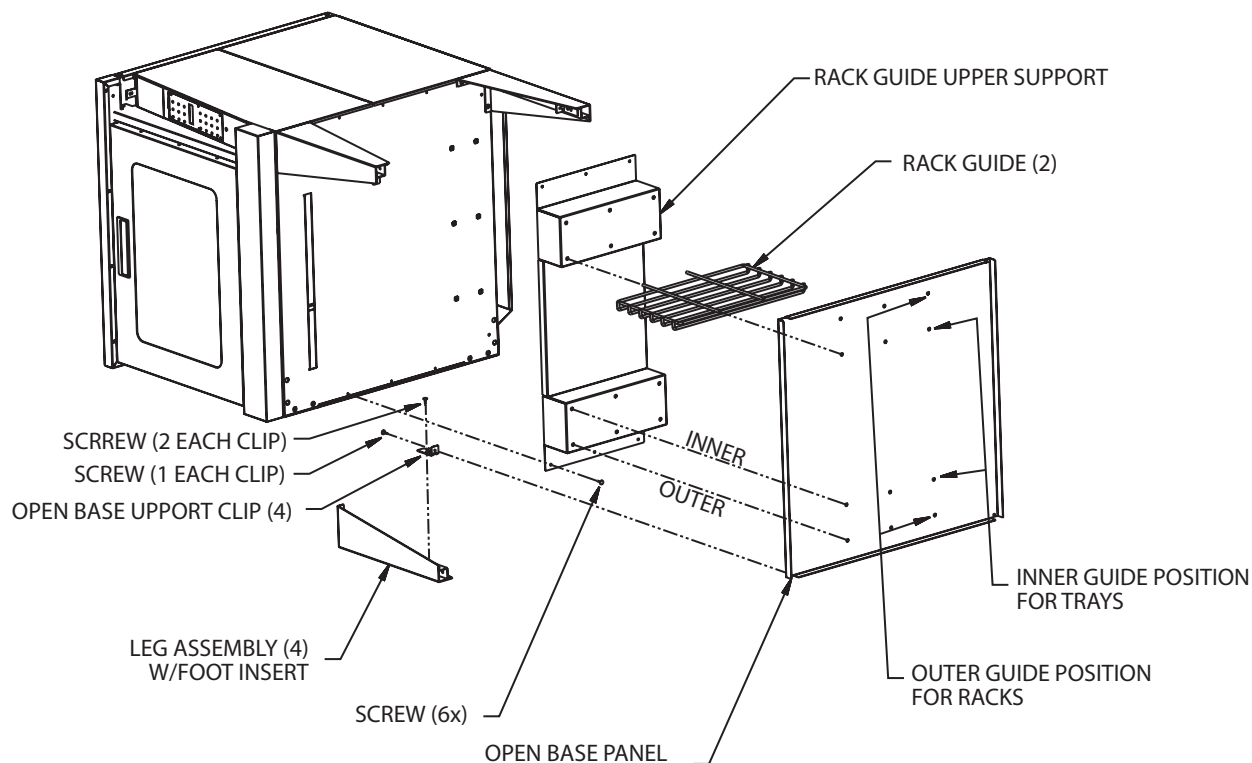

Figure 2.
1. (See Figure 2.). Align the rack guide upper support to the corresponding holes in the oven base. Fasten using three #10 x 3/4" machine screws on each side of the oven.